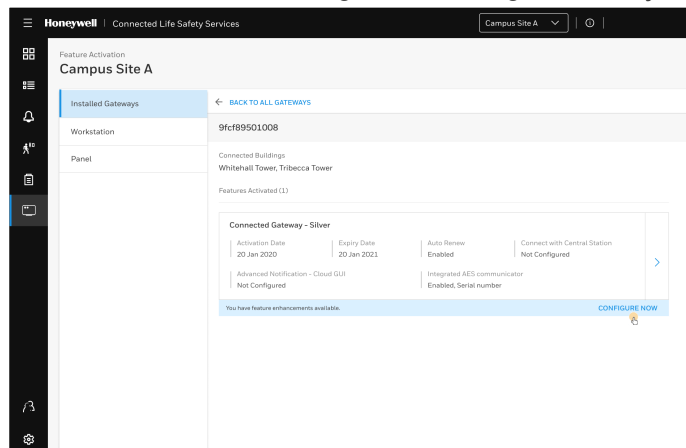

Figure E-7: Configure Gateway
05. Navigate to the gateway and click **CONFIGURE NOW** (see Figure E-7: Configure Gateway ).